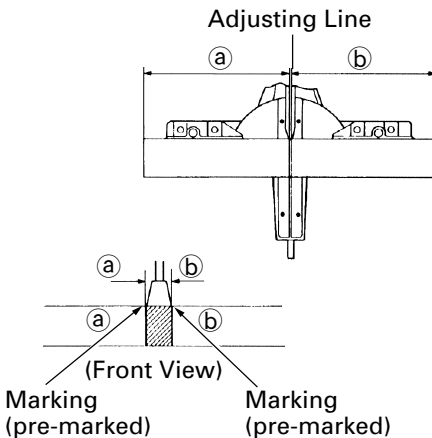

Fig. 26
- (1) As shown in Fig. 26 the width of the saw blade is the width of the cut. Therefore, slide the workpiece to the right (viewed from the operator's position) when length (b) is desired, or to the left when length (a) is desired.
- (2) After turning on the switch and checking that the saw blade is rotating at maximum speed, slowly push down the handle while holding down the lever (A) and bring the saw blade in the vicinity of the material to be cut.
- (3) Once the saw blade contacts the workpiece, push the handle down gradually to cut into the workpiece.
- (4) After cutting the workpiece to the desired depth, turn the power tool OFF and let the saw blade stop completely before raising the handle from the workpiece to return it to the full retract position.